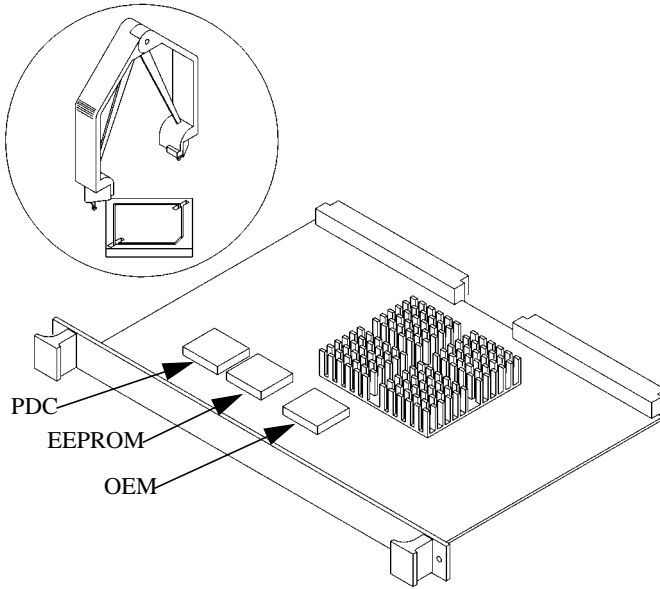

Figure 5-15 **Removable ICs**
NOTE: Figure 5-15 depicts a stripped down board from the front, displaying and naming just the IC's.
- 1 Before removing the IC, note its position/orientation. The replacement IC must be installed in the same position. See Figure 5-15.